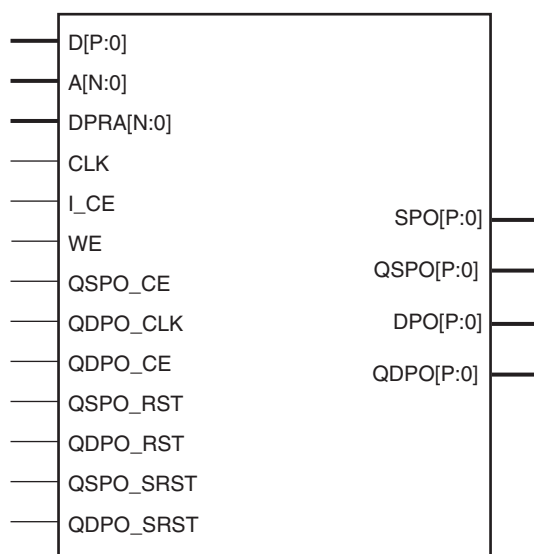
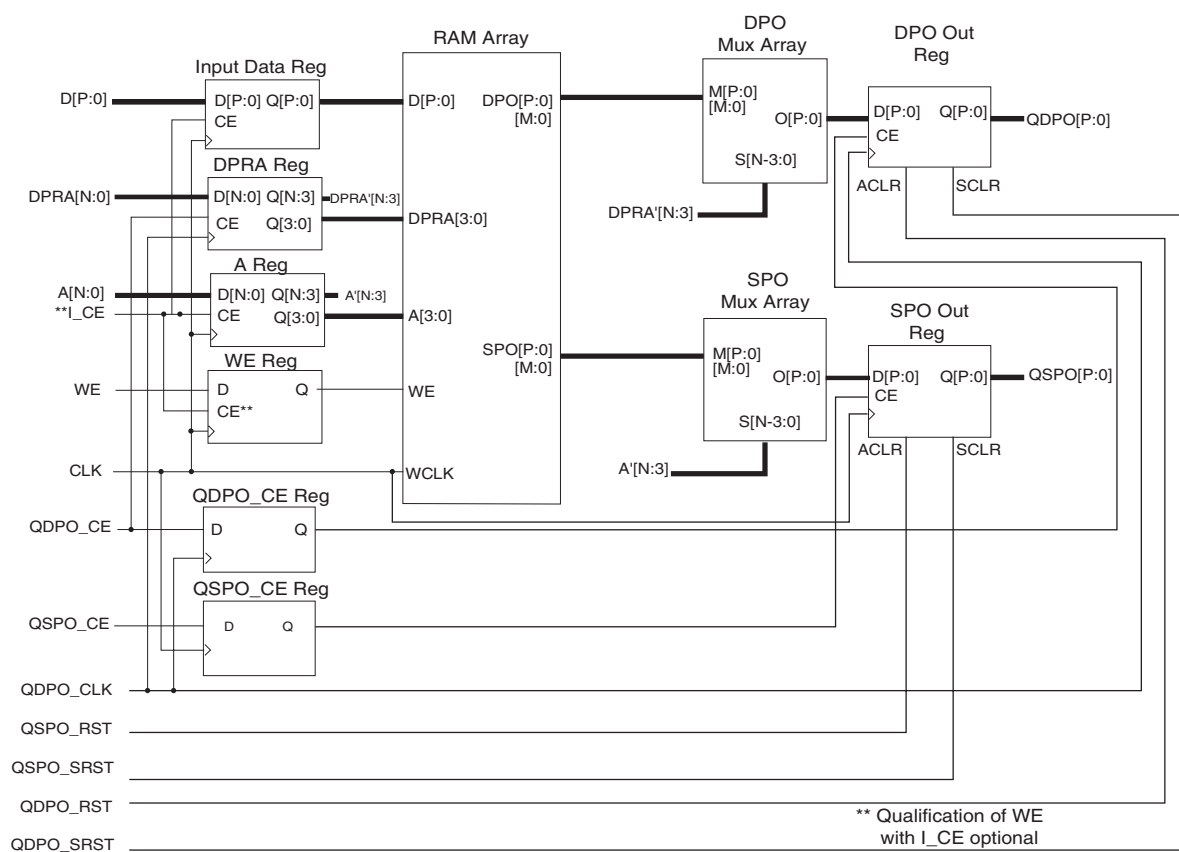

Figure 5: Dual-Port RAM Schematic Symbol
Figure 6: Dual-Port RAM Module Schematic
Writes to the distributed dual-port RAM are synchronous to the clock (CLK). However, read operations from the distributed dual-port RAM can be asynchronous or synchronous with respect to either of the two clocks (CLK or $QDPO_CLK$). Figure 5 illustrates the dual-port RAM schematic symbol, showing the relevant ports. Figure 6 shows the internal implementation of the distributed dual-port RAM. If a pipeline register is added to a registered core (not illustrated), the additional register is re-timed into the SPO MUX array and DPO MUX array.
- **Dual-Port RAM.** Figure 6 illustrates a schematic of the structure of the dual-port RAM modules. The address and data registers are optional (controlled by the setting of the Input Options parameter). The dual-port read address register is optional (controlled by the setting of the Dual-Port Address parameter). Output registers for both output ports are also optional (controlled by the setting of the Output Options parameter). When registered outputs are selected, the two output ports can be clocked by the same or different clock signals and can have the same or different clock enables (based on the settings selected for the Common Output Clock and Common Output CE parameters). All resets and clock enables are optional. Note that the clock CLK is always required, because writes to the RAM are synchronous to that clock.